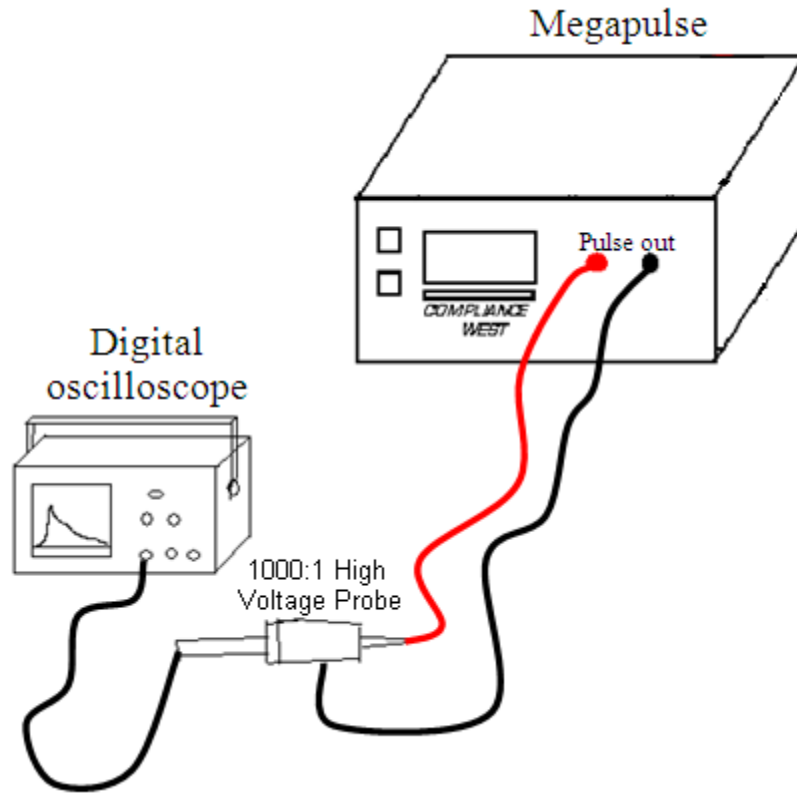

Figure 5. Waveform Measurement Setup
3. Connect the ends of the test leads to an appropriate measuring instrument (typically an oscilloscope with a high-voltage probe). Note that the **RETURN** lead is referenced to the chassis ground of the tester. See Figure 5 as an example.